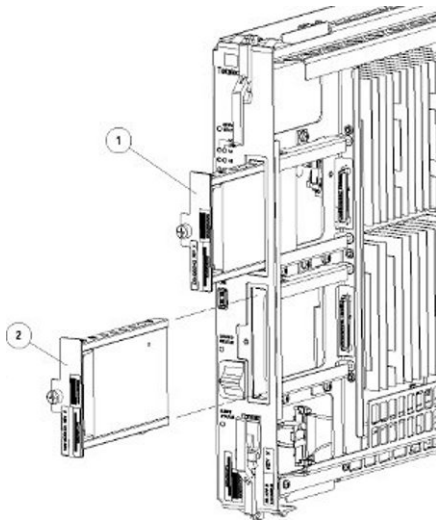
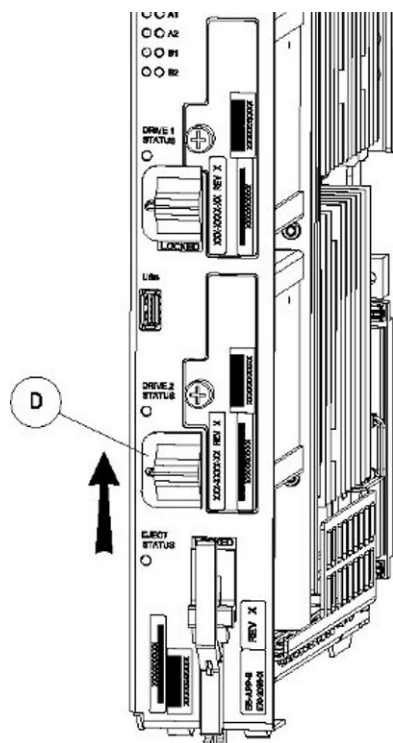

Figure 49: Drive Module Removal
Figure 51: Drive Module Locked
5. Grasp the screw (E) and pull the drive out slowly until it is free from the card (see Figure 49: Drive Module Removal).
2. Gently push the drive (A) in slowly until it is properly seated.
3. Tighten the mounting screw until the Drive Status LED is in a steady red state ((B), Figure 49 from).
4. Move the drive module locking switch (D) from the unlocked to the LOCKED position.
When drive module locking switch (D) is transitioned from unlocked to locked, the LED will flash red to indicate the drive is locked and in process of coming online (see Figure 51: Drive Module Locked).